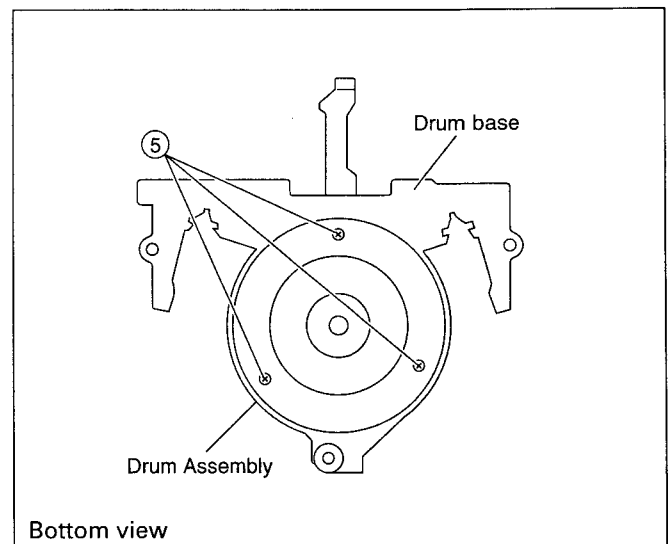

Fig. 2-3-10 (1)
To remove the drum base, remove the three screws ⑤. [Refer to the Fig. 2-3-10 (1).]